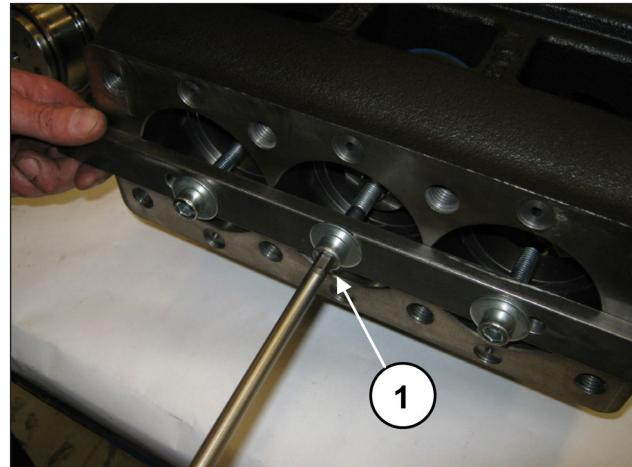
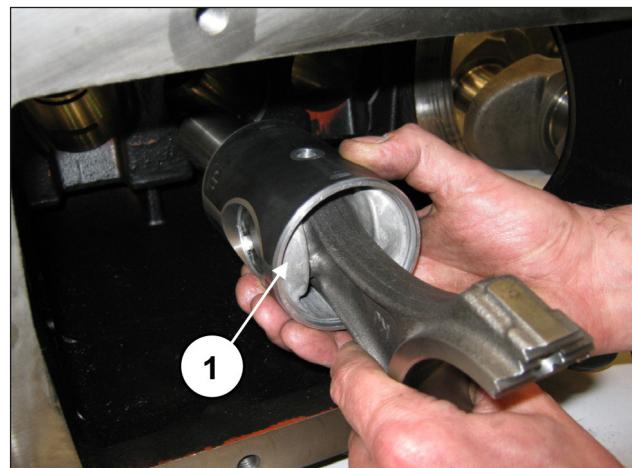
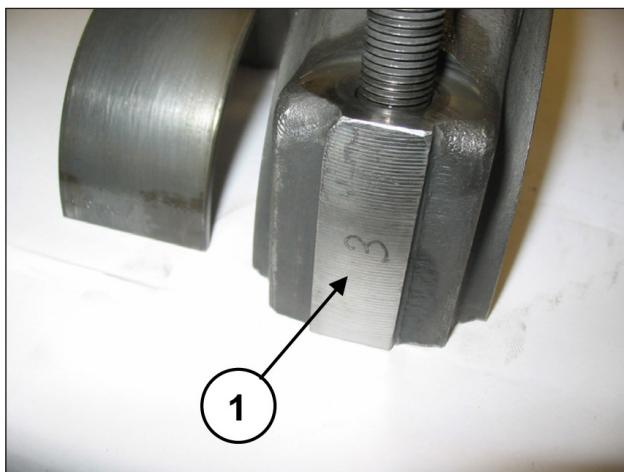

Fig. 32
Fig. 33
Fig. 40
Unscrew the screws with tool code 27566200 to unlock the con-rods (pos. ①, Fig. 32) and then extract the con-rod-piston guide units from the back casing opening (pos. ①, Fig. 33).
Couple the half supports to the previously disassembled caps, referring to the numbering (pos. ①, Fig. 40).
Separate the caps from the half supports. Proper coupling can be verified by the numbering on the side (pos. ①, Fig. 40). After having checked casing cleaning, proceed with assembly of half support-piston guide unit inside casing rods (pos. ①, Fig. 33).
Block the three units with the use of special tool code 27566200 (pos. ①, Fig. 32).
Remove the tool for blocking the con-rods code 27566200 (pos. ①, Fig. 32).